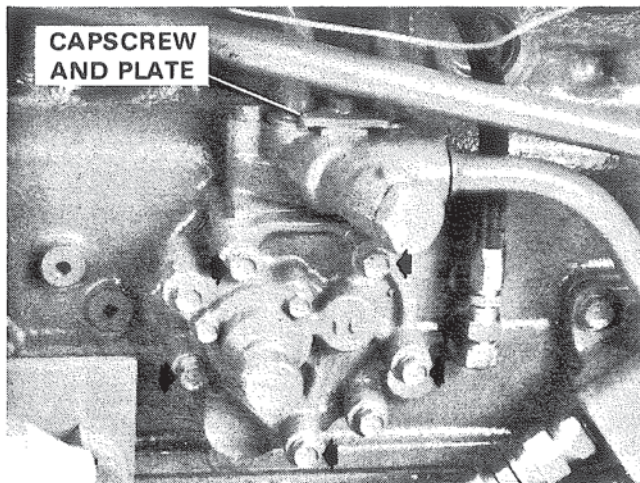

Figure 2. Removing Oil Pump.
1. Remove capscrew and retainer plate securing oil cooler lines to top of pump. Figure 2.
2. Remove five (5) capscrews securing pump to crankcase. Figure 2.
3. Lift two (2) oil lines from top of pump and separate pump from crankcase. Turn pump to left enough to remove line leading to relief valve, pull pump from engine.